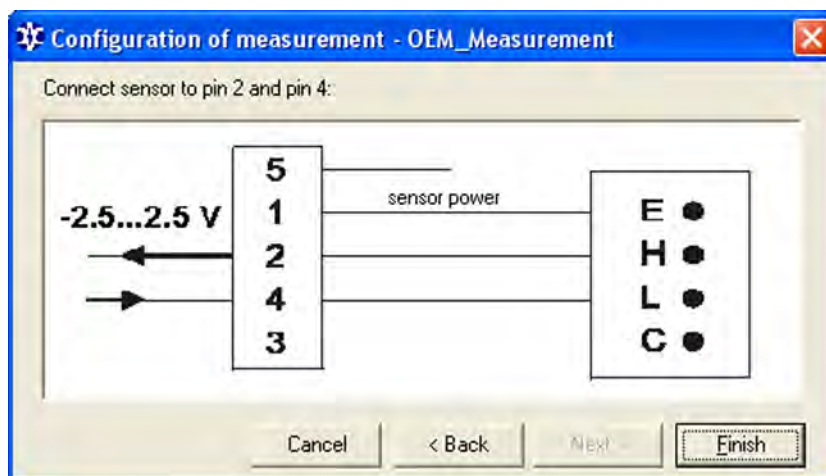

Figure 75 Electrical Connection View
6. Click **Next** to conclude the setup and view the electrical connection, presented in Figure 75 on page 156. The leftmost box shows the pins on the external connector and the rightmost shows the pins on the QML logger.